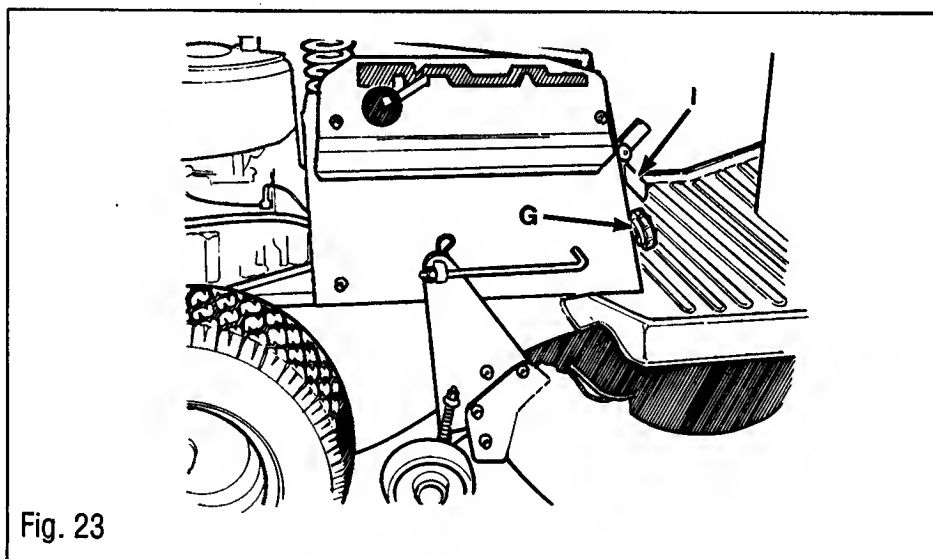

Fig. 23
3. Adjust mower height adjusting knob (G, Fig. 23) so the mower blades are approximately 2-1/2" from the ground.